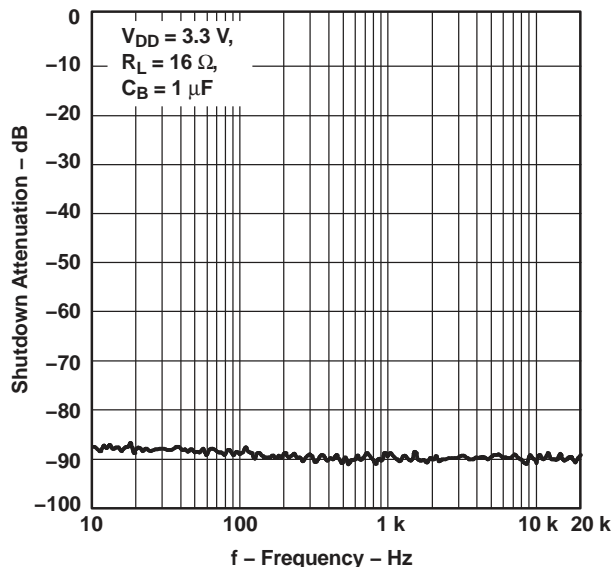

Figure 25.
- Changed Figure 25, From: frequency limit at 1M To: frequency limit at 20K ..... **11**